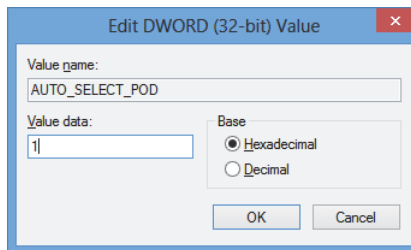

Figure 2-25 The Edit DWORD Value dialog box for the AUTO_SELECT_POD file
- a) Double-click the **AUTO_SELECT_POD** file to open the **Edit DWORD Value** dialog box for that file (see Figure 2-25 on page 49).